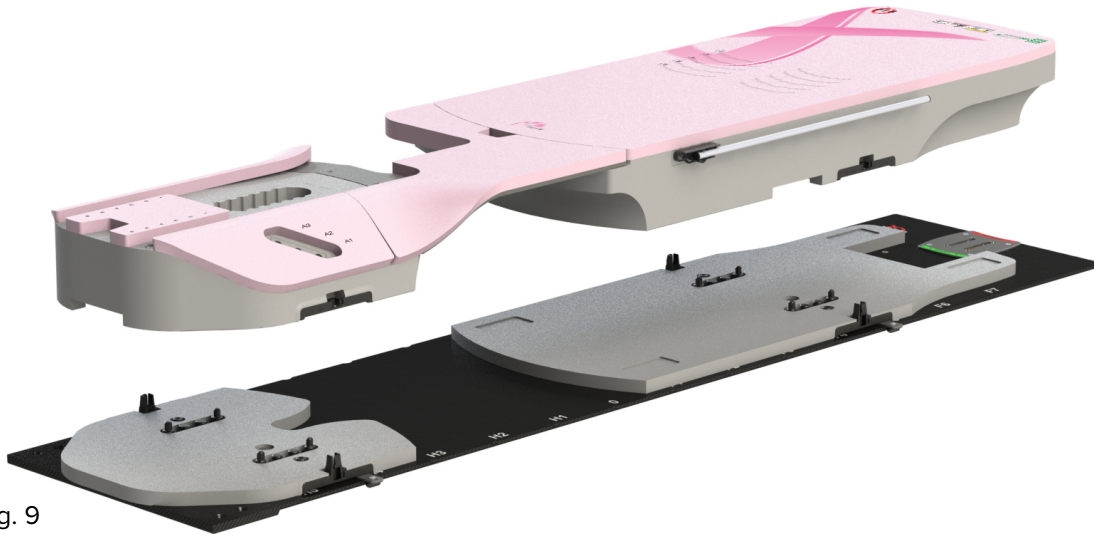

Fig. 9
3. Place Access Prone G2 or Access Prone onto CT Shims. (Fig. 9)